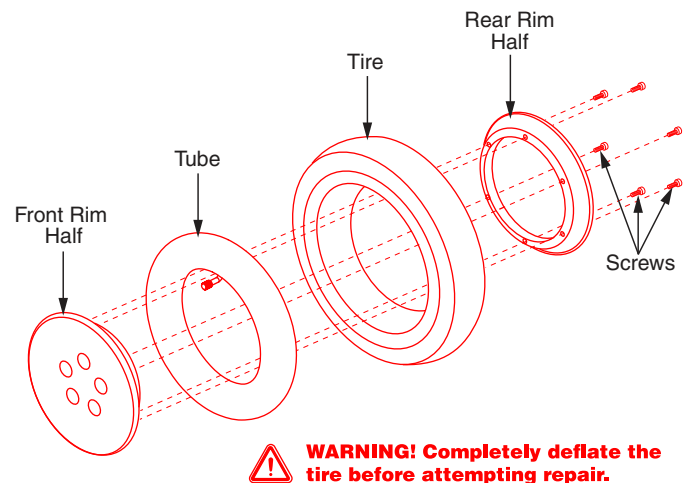

Figure 22. Q6 Edge 2.0 Series Drive Wheel Disassembled
6. Remove the screws and separate the front and rear rim. **See figure 22.**
10. Reinstall the five (5) lug nuts onto the wheel hub and tighten.